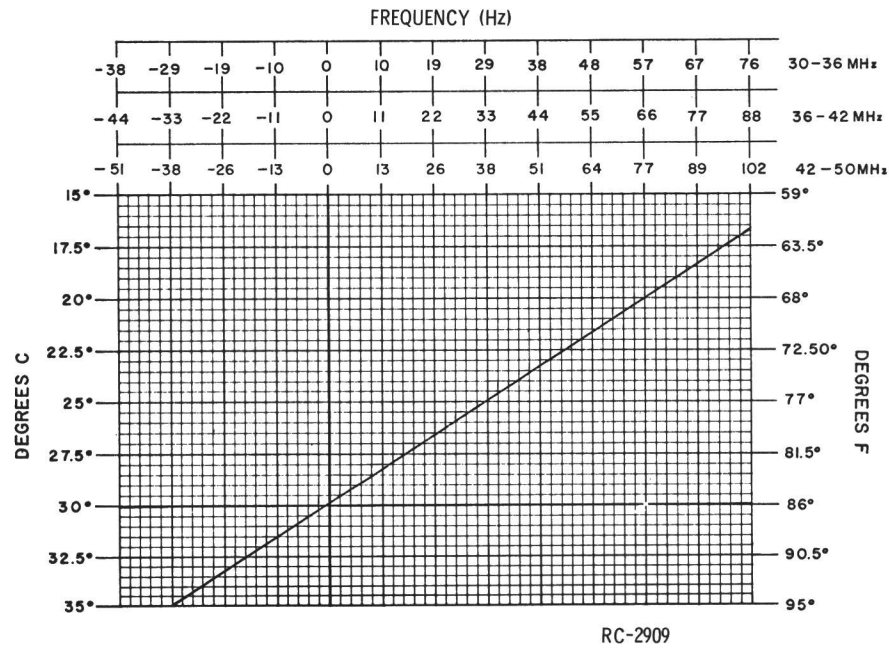

Figure 4 - Frequency Offset Chart
- 2. Maintain the radio at 30°C (+5°C, -15°C) offset the operating frequency as a function of actual temperature, by the amount shown in Figure 4.